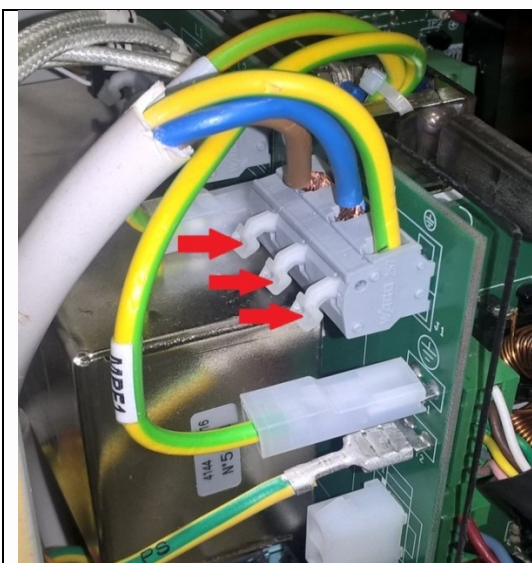
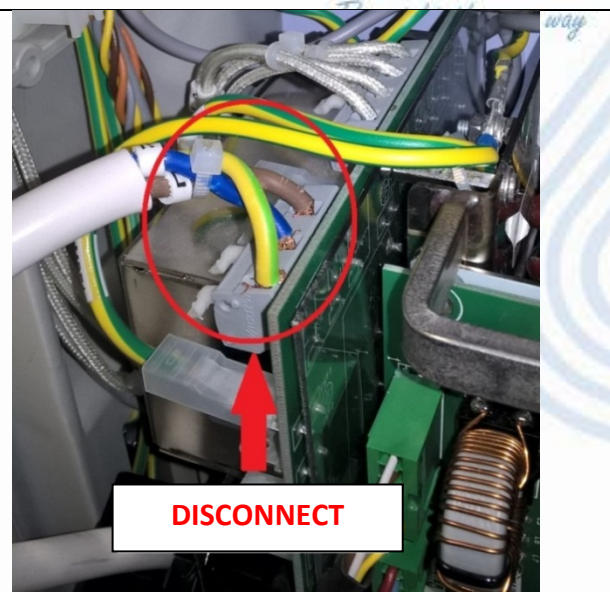

Fig. 5
Fig. 6
7. Disconnect power supply cable by pressing on the terminal release levers (**Fig. 5 & Fig. 6**).